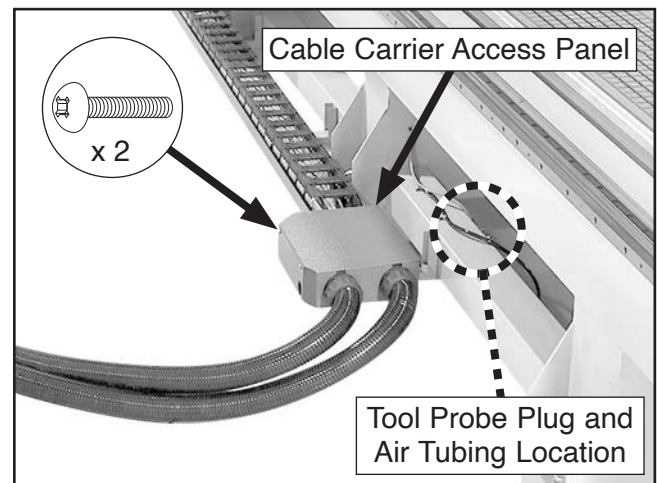

Figure 39. Cable carrier access panel location.
7. Loosen and remove (2) pre-installed cap screws securing cable carrier access panel, then remove panel (see **Figure 39**).
8. Locate tool probe plug and air tubing secured underneath machine next to cable carrier access panel (see **Figure 39**). Remove any tie straps on plug and tubing.